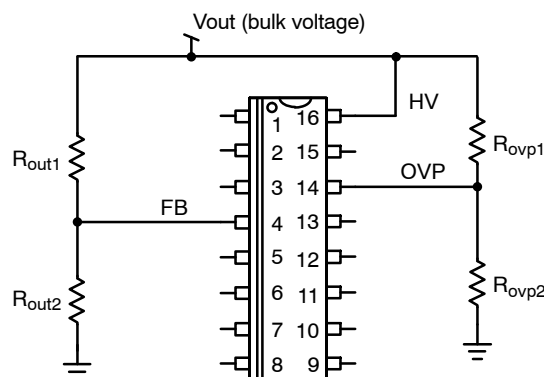

Figure 62. Configuration with Two Separate Feedback Networks
NCP1605(A) dedicates one specific pin for the undervoltage and overvoltage protections. The NCP1605(A) configuration allows the implementation of two separate feedback networks (see Figure 62):